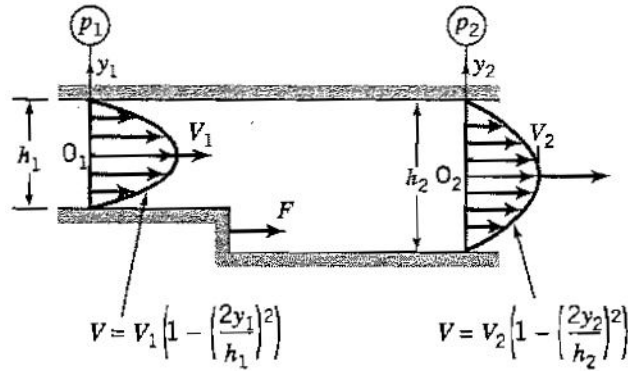

Figure P3.38
3.38 A fluid of constant density ρ enters a duct of width W and height h_1 with a parabolic velocity profile with a maximum value of V_1 , as shown in Figure P3.38. At the exit plane the duct has height h_2 and the flow has a parabolic velocity profile with a maximum value of V_2 . The pressures at the entry and exit stations are p_1 and p_2 , respectively, and they are uniform across the duct.